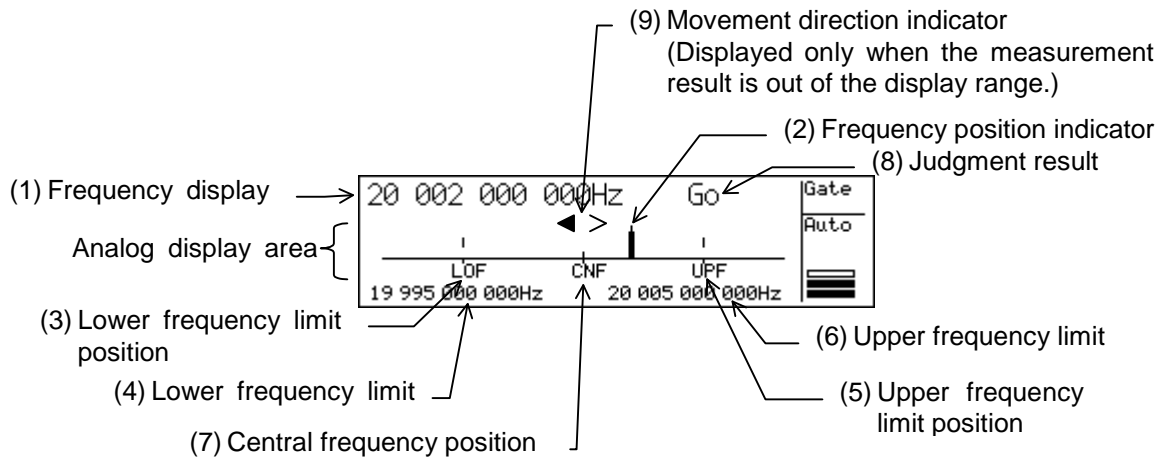

Figure 4.2.1-3 Template Screen
Figure 4.2.1-3 shows the template screen, which visually indicates whether the frequency measurement results fall within the preset range. This screen allows making a decision instantly during adjustment, without calculating frequency values.
The following describes the items (1) through (9) in Figure 4.2.1-3.
- (1) Frequency display